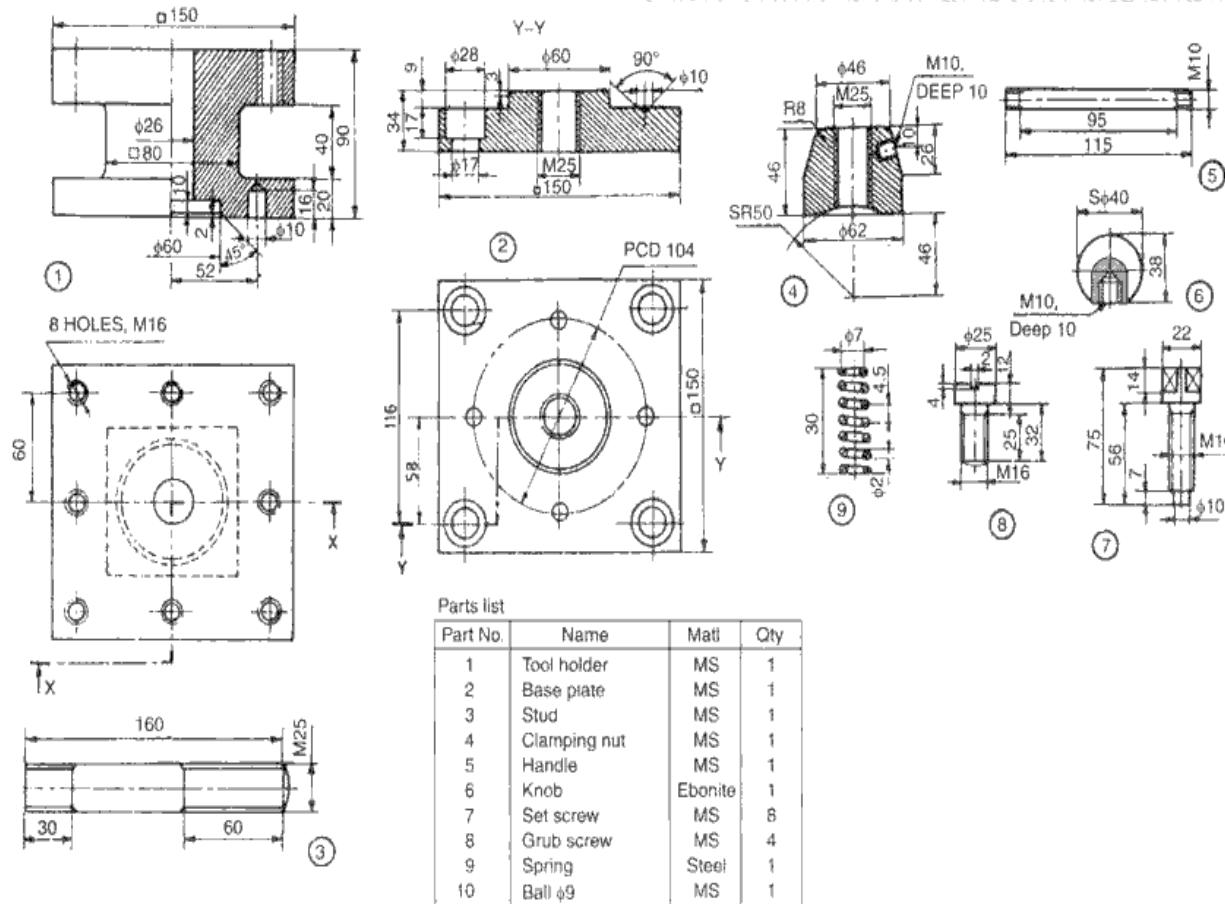

Fig. No. 1 – Details of Square Tool Post
Q.4. Attempt any two of the following. (12)
a) Represent transition fit and interference fit. (6)
b) Show surface roughness value and roughness grade symbol for roughness grade number N3. (6)
c) Highlight the advantages of Computer Aided Design and Drafting (CADD). (6)
Q.5. Attempt any one of the following. (24)
a) Fig. No.1 shows details of square tool post. Draw sectional front view and top view of the assembly and also prepare bill of material. (24)